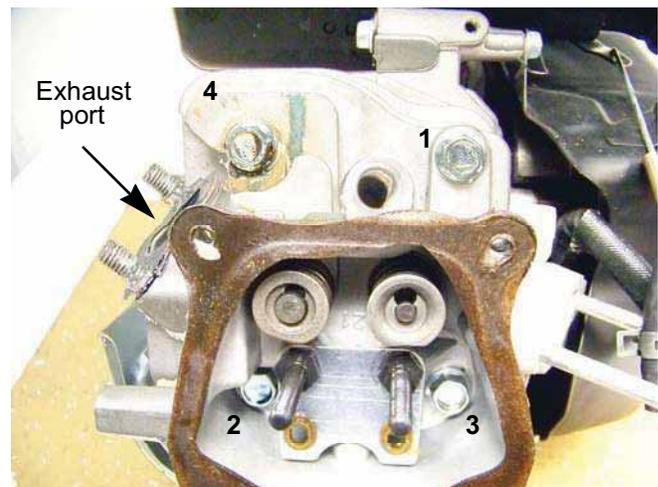

Figure 9.10
10. Install the 4 head bolts, and tighten them to a step torque of 16 - 18 ft lb. (22 - 25 Nm), 30 - 33 ft lbs step (40 - 45 Nm) on a 75 series engine, in an alternating diagonal pattern. See Figure 9.10.